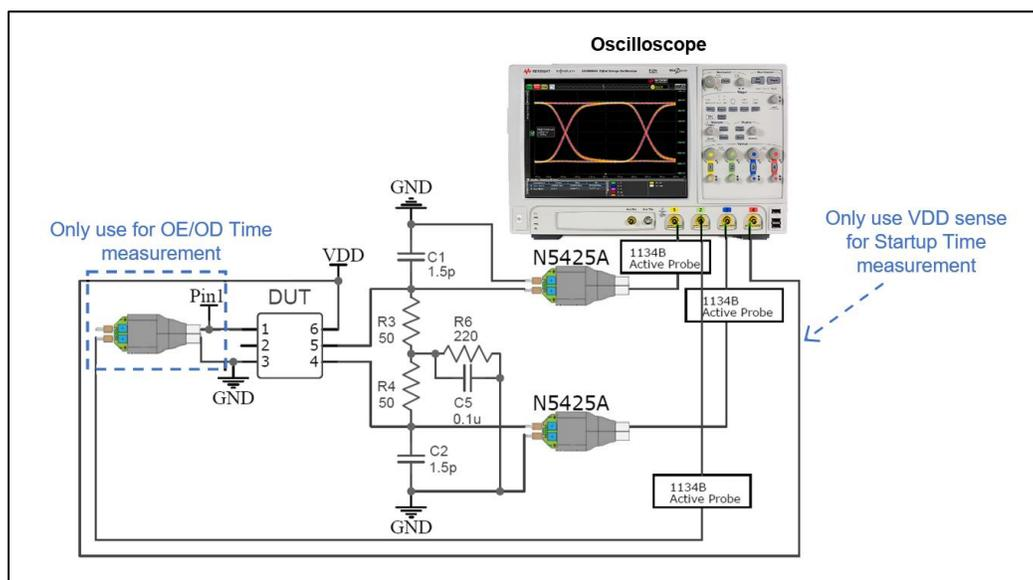

Figure 10. Test setup to measure FlexSwing Waveform Characteristics, Current Consumption[18], Output Enable/Disable Time, and Startup Time
- 15. See Figure 10 for the test setup to measure LVPECL Current Consumption with Termination 1 or without Termination.